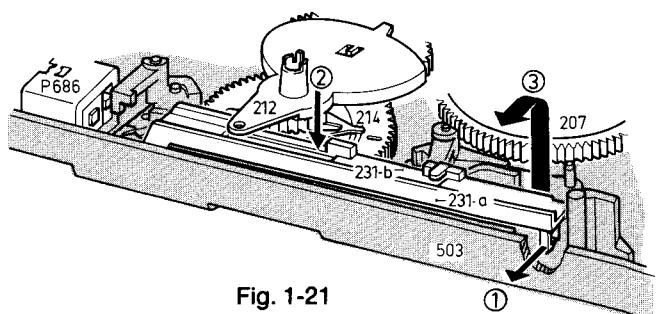

Fig. 1-21
- Lower the lift pos. 201.
- Unhook spring pos. 233.
- Demount right-hand lever (snap connection with left-hand lever). Swivel left-hand lever backward (Fig. 1-21).
- ① Unlock the click construction between the brake lever, Pos. 231a and Pos. 231f at the right and remove it by bending bracket ② ③ pos. 231a up at the right side until its lower pin can be brought over the chassis plate.